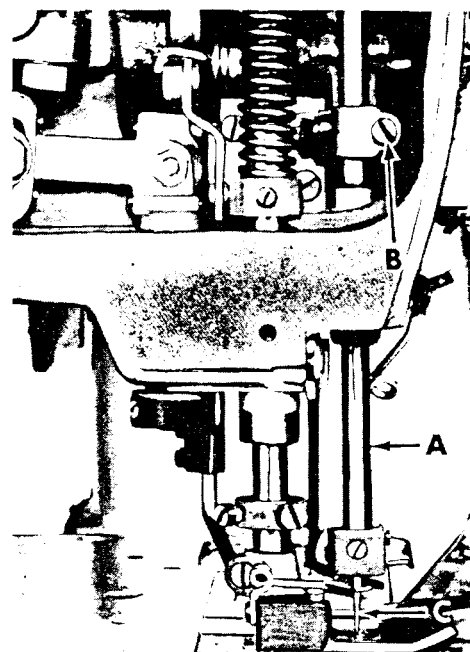
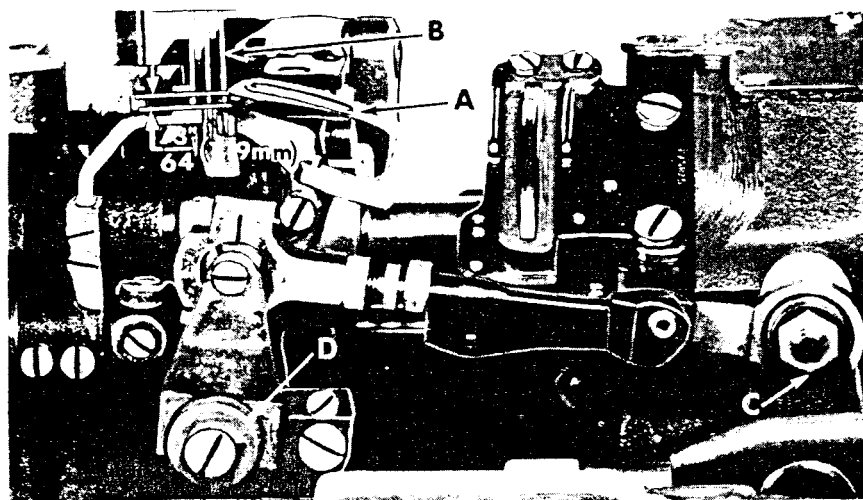
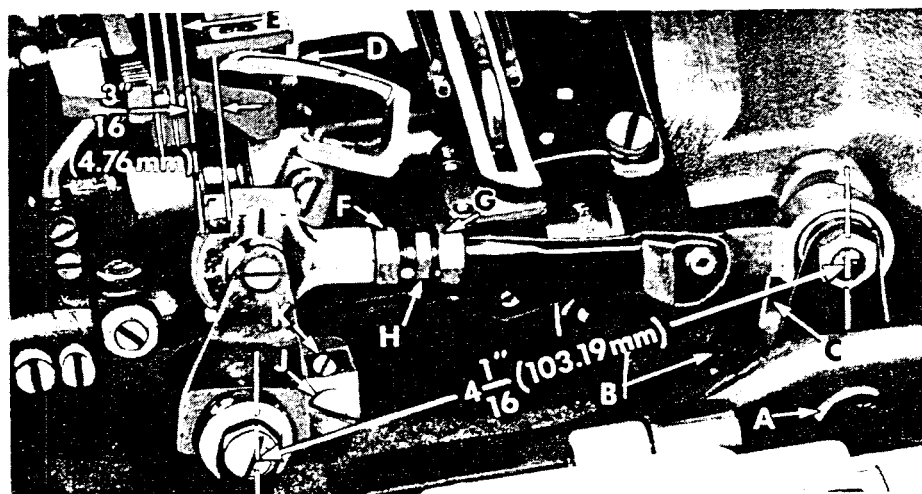

Fig. 4
Fig. 5
Fig. 6
Align the needle bar (A, Fig. 4) and set to height, using the proper test pins and test plate of the right gauge. See chart below.
If test plate and test pins are not available, insert a new set of needles (Type and Size as required) and align the needle bar so the needles center in the needle holes of throat plate. To align needle bar, loosen needle bar clamp screw (B, Fig. 4) and turn bar as required. Tighten clamp screw.
Insert the looper in the looper rocker and turn handwheel in operating direction until the point of the looper (A, Fig. 5), moving to the left is even with the left side of right needle (B). Note the height of the eye of the needle with respect to the looper point, then turn handwheel in the reverse direction until the looper point again moves to the left, and is even with the left side of the right needle.
If the motions synchronize, the height of the eye of the needle with respect to the looper point will be the same. A variation of .005 inch (.127 mm) is allowable. If the distance from the eye of the needle to the point of the looper is greatest when the pulley is turned in the operating direction, move the looper drive shaft synchronizing stud (A, Fig. 6) to the rear. Moving it in the opposite direction acts the reverse.
Moving of the looper drive lever shaft synchronizing stud is accomplished as follows: Loosen the clamp screw (B, Fig. 6) of the looper drive lever (C). To move stud to rear (away from operator), a light tap with a small hammer, directly on the stud, is all that is required. To move stud forward (toward operator), remove the cloth plate, throat plate support, oil reservoir top cover and oil reservoir back cover, then, a light tap on the looper drive lever rocker shaft, toward the operator, is all that is required.
NOTE: Looper drive lever (C, Fig. 6) has an oil seal collar and an "O" ring between it and the bed casting. All end play must be removed from the looper drive lever rocker shaft by compressing the "O" ring until drive lever (C) and the oil seal collar make metal to metal contact with the bed casting. Tighten screw (B).
With the looper at the extreme right end of its travel, check the location of the center line of the right looper connecting rod bearing, using gauge No. 21227 CX. Remove nut (C, Fig. 5) and place hole in gauge over threaded stud. The left end of the gauge should locate against the right side of the looper rocker cone (D). If adjustment is necessary, loosen the clamp screw (B, Fig. 6) and reposition the looper drive lever (C) as required. Tighten clamp screw. If gauge is not available setting can be checked with a scale. The distance between the center line of the looper rocker cone and the center line of the looper lever stud should be 4 1/16 inch (103.19 mm) (Fig. 6), when looper is at the extreme right end of its travel. Refer to "NOTE" in above paragraph.
Insert a new needle in the right needle seat, type and size as specified. If the looper gauge is 3/16 inch (4.76 mm), for example, set the looper (D, Fig. 6) so the distance from the center of the right needle (E) to the point of the looper is 3/16 inch (4.76 mm) when the looper is at its farthest position to the right. Looper gauge No. 21225-3/16 can be used advantageously in making this adjustment. Refer to chart below for needle Type, looper gauge setting and looper gauge number for the various styles of machines. If adjustment is required, loosen nut (F) (it has a left hand thread) and nut (G) on connecting rod (H), turn the connecting rod forward or backward to obtain the 3/16 inch (4.76 mm) dimension. Retighten both nuts, first nut (G) and then nut (F). Make sure the left ball joint is in vertical position and does not bind after adjustment.
If adjustment is necessary, loosen lock screw (J, Fig. 6) and turn stop screw (K) as required. Turning stop screw clockwise sets the looper to the rear and turning it counterclockwise acts the reverse. Holding looper to the front while making this adjustment may prove helpful. Tighten lock screw (J) when setting is obtained and recheck the adjustment.
The height of the needle (C, Fig. 4) is correct when the top of its eye is 3/64 inch (1.19 mm) (Fig. 5) below the underside of the looper, with the looper point flush with the left side of the needle. If adjustment is necessary, loosen screw (B, Fig. 4) and move needle bar (A) up or down as required and retighten screw. Care should be taken not to disturb the alignment of the needle bar when moving the needle bar either up or down.